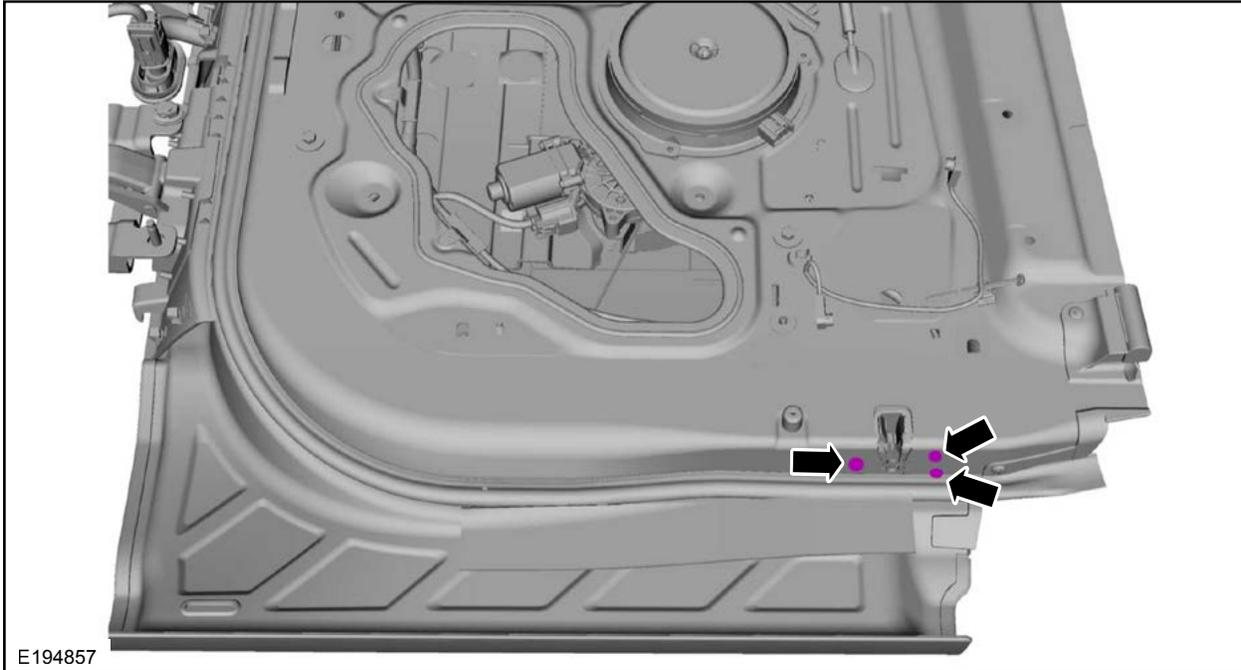

FIGURE 103
5. Remove the three lower door latch bolts. See Figure 103.
10. Install the three lower door latch bolts. See Figure 103.